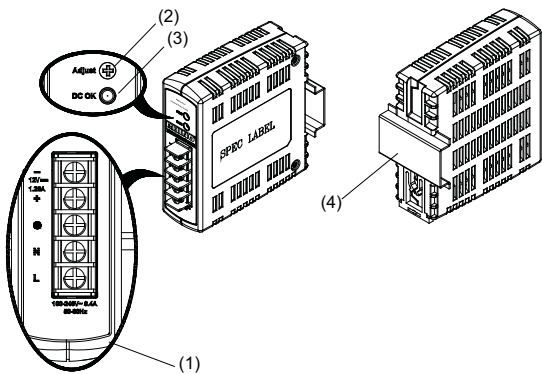

Figure 1
2. Device description (Fig. 1)
5.1. Input connection (Fig. 1, Fig. 5)
Use L, N and GND connections of input terminal connector (see Fig. 1 (1)) to establish the 100-240 VAC connection.
5.2. Output connection (Fig. 1 (2))
The green LED DC OK displays correct function of the output (Fig. 1 (3)).